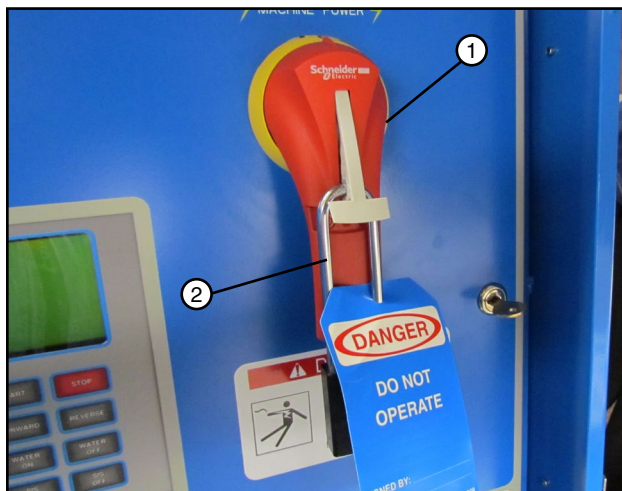

Figure 58-2 1. Main Disconnect
2. Turn the power off at the main disconnect and secure with a lock. See figure 58-2.